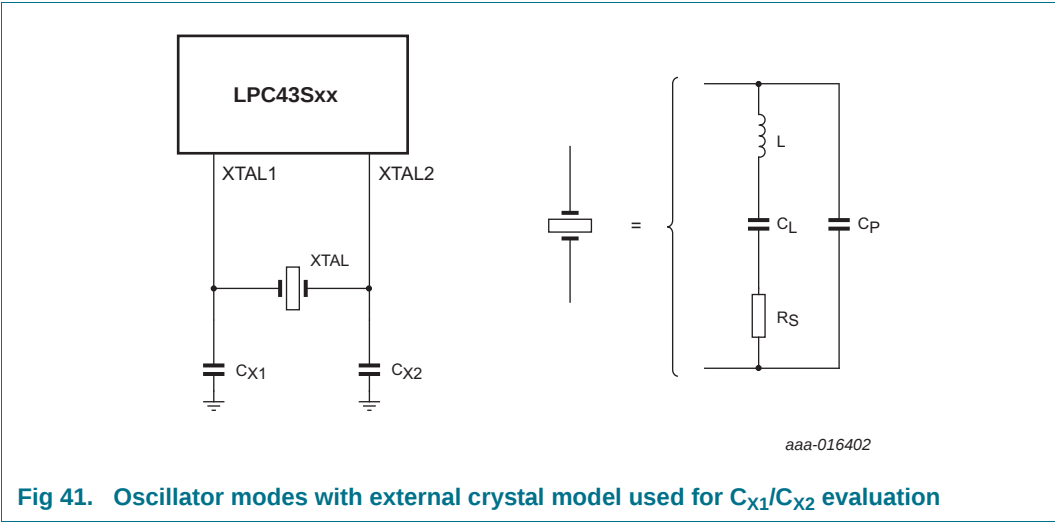

Fig 41. Oscillator modes with external crystal model used for C_{X1}/C_{X2} evaluation
- External components and models used in oscillation mode are shown in Figure 41, and in Table 43 and Table 44. Since the feedback resistance is integrated on chip, only a crystal and the capacitances C_{x1} and C_{x2} need to be connected externally in case of fundamental mode oscillation (the fundamental frequency is represented by L , C_L and R_s). Capacitance C_P in Figure 41 represents the parallel package capacitance and should not be larger than 7 pF. Parameters F_C , C_L , R_s and C_P are supplied by the crystal manufacturer.